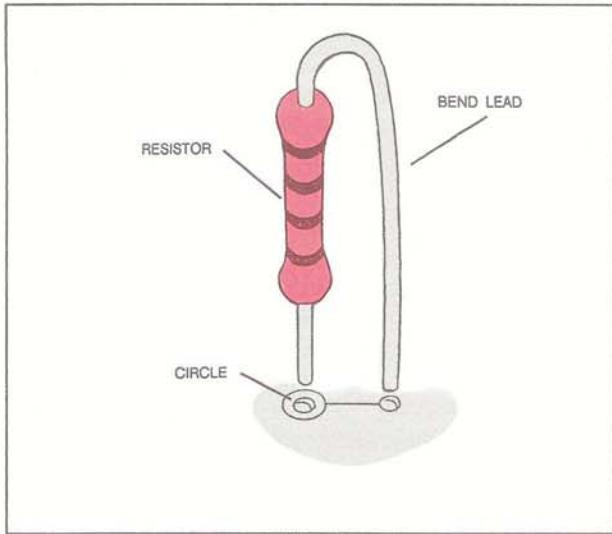

FIG. 57
1. Insert resistor R24 ($1M\Omega$) through the holes indicated on the PC board, standing it on end, as illustrated in Fig. 57. Insert the lead nearest the body through the hole marked with a circle. After insertion, bend the leads slightly to hold the resistor in place until requested to solder.